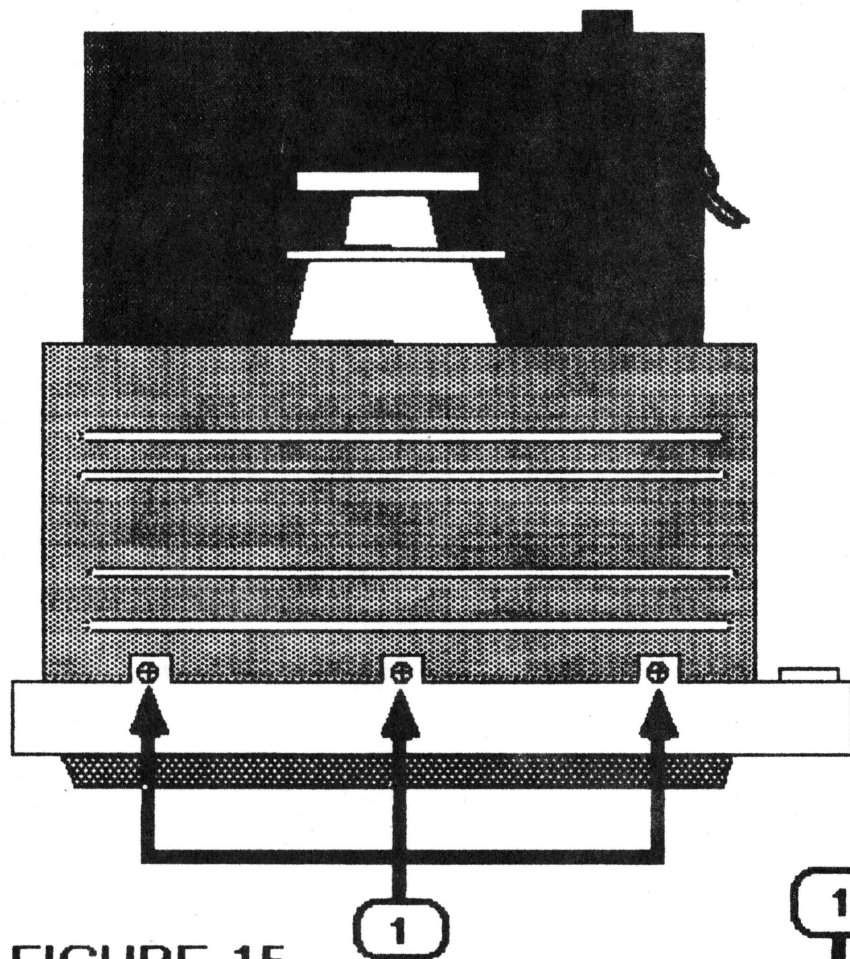

FIGURE 15
7. Set the monitor on its feet. Figure 15 shows a top view of the monitor. Remove the three screws shown in Figure 15, #1.